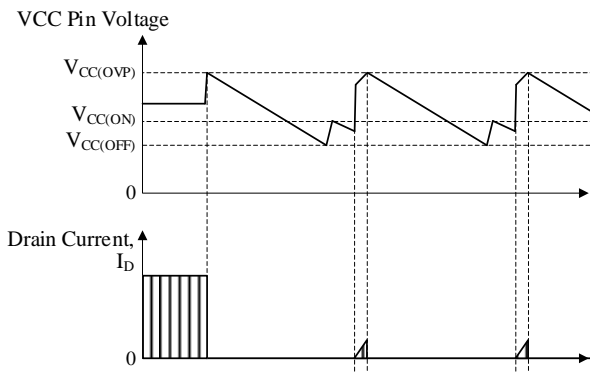
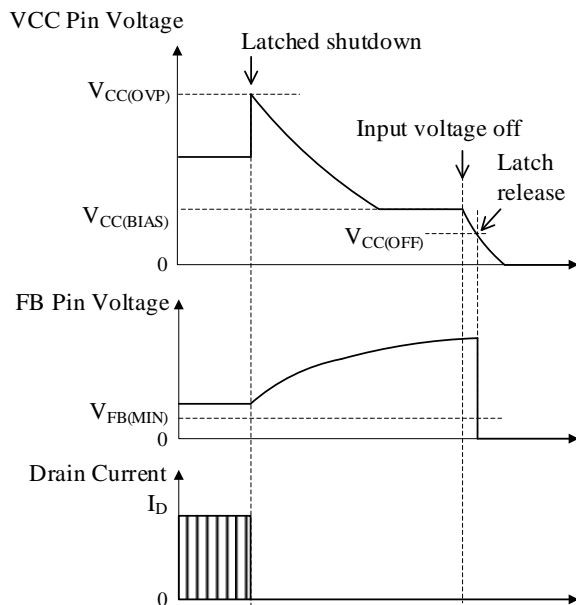

Figure 9-19. VCC_OVP Operational Waveforms (Auto-restart)
Figure 9-20. VCC_OVP Operational Waveforms (Latched Shutdown)
Figure 9-19 and Figure 9-20 show the operational waveforms of the VCC pin overvoltage protection (VCC_OVP). When the voltage across the VCC and S/GND pins reaches $V_{CC(OVP)} = 31.5 \text{ V}$ or more, the VCC_OVP is activated, and then the IC stops switching operation. Because the VCC pin voltage is proportional to the output voltage, it can be used to detect an output overvoltage event such as an open load condition. The approximate secondary output voltage at VCC_OVP activation, $V_{OUT(OVP)}$, can be calculated by Equation (4) below: